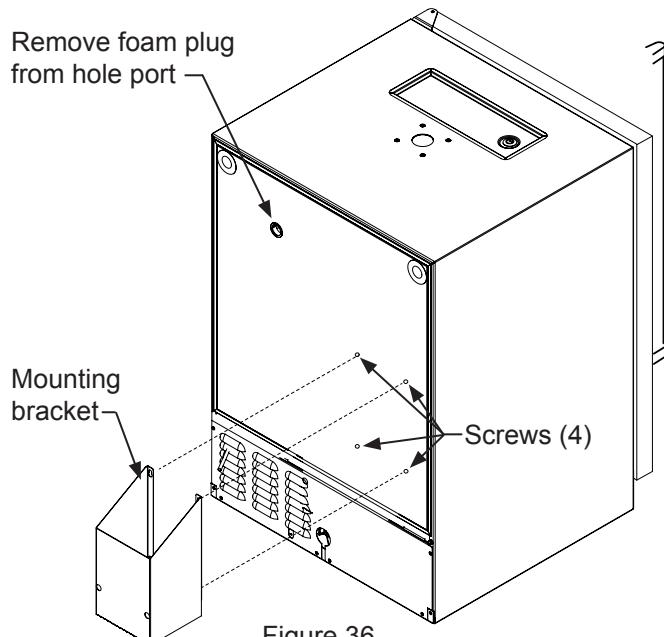

Figure 36
Mount the (4) screws (#10-32 x 3/4" flathead machine screws) provided with the bracket in the rear of the appliance, see Figure 36. Do not completely tighten. Place the keyhole slots in the flanges of the bracket over the four screws and tighten them to secure the bracket to the back of the cabinet. The bracket can also be fastened to adjacent cabinetry using the provided #10 x 3/4" wood screws. Mark the hole locations where required using a pencil and the slots in the mounting bracket. Drill appropriate pilot holes (depending on the material you are mounting to) and secure the bracket per the above instructions.
Remove the foam plug from the hole port as shown in Figure 36, and feed the red CO₂ line through the rear wall and out the coil cover on the inside of the cabinet. Connect the red CO₂ line to the keg coupler.